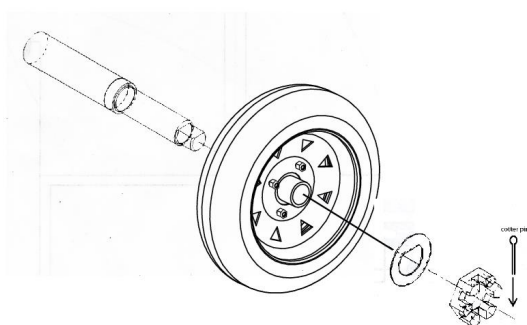

Figure 8: Expanded view of hub assembly.
Figure 8: To prevent pinching the coupler while tightening, use an extra 19mm flat-washer (R) threaded onto the 3" bolt (Q), between the tongue (2) and the coupler (2).
- e. *Note: when attaching the front bolt of the coupler to the tongue, you will need to secure the coupler safety chain (T).*
- f. Using a 3" 19mm bolt (Q), two 19mm flat-washers (R), and one 19mm lock-nut (S), thread the 3" bolt halfway through the coupler, then, from the bottom of the coupler, attach the center link of the coupler safety chain (T) to the bolt, and thread the bolt through the rest of the tongue and coupler. Finger tighten the 19mm lock-nut (S) onto the bolt. *Ensure that the coupler safety chain is securely attached to the trailer through the front coupler bolt, and that the tongue wiring harness is not pinched by any of the coupler mounting hardware.*